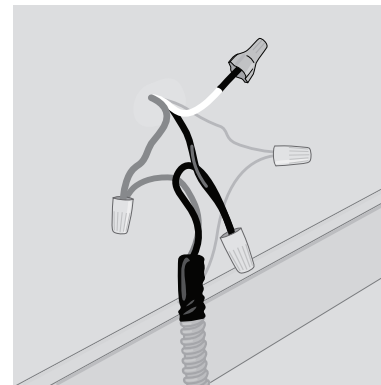

Figure 32
**1** Connect the wires to the wall as follows (See Figure 32):